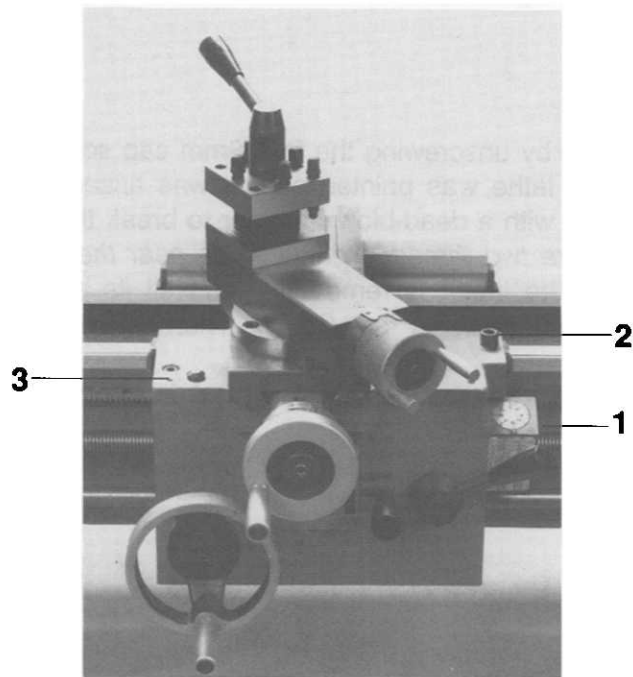

Figure 4
1. Remove the threading dial indicator (#1 in Figure 4) from the side of the apron. One 5mm cap screw holds it in place.
2. Loosen the cap screw (#2 in Figure 4) that engages the carriage lock.
10. On top of the carriage are two 6mm cap screws that hold the apron in place. Remove these now. The apron is pinned to the carriage top casting; remove this by pulling straight down. One pin is shown at #3 in Figure 4; the other is obscured by the compound slide's dial handle.